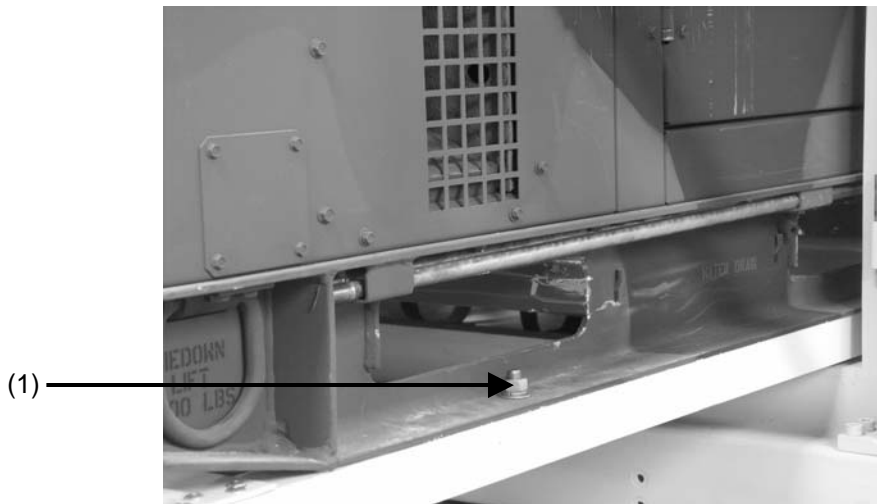

Figure 4-20. Bottom of Generator on slide.
3. Remove four sets of washer, lock washer, nut, and bolt (1) using a 3/4" wrench (WP 0058 00, SATS Base Tool Component List). (Fig. 4-20)